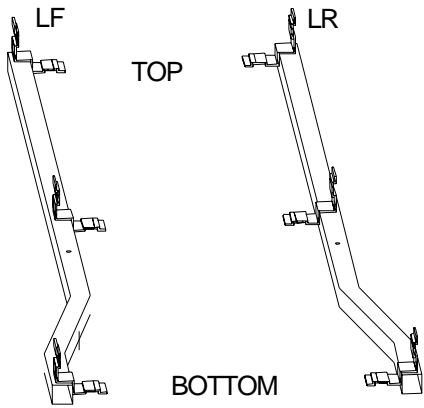
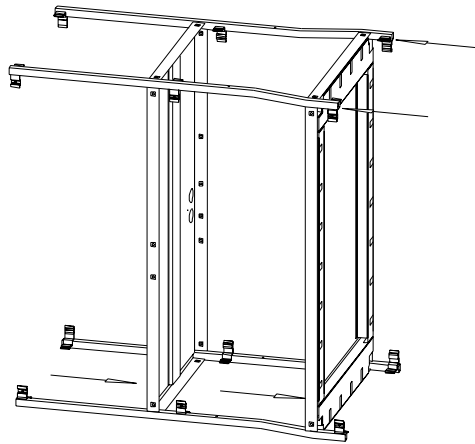
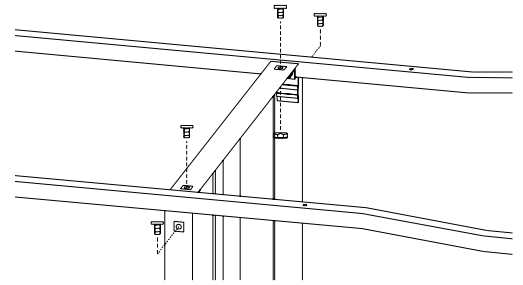

FIGURE 1
FIGURE 2
FIGURE 3
Lay the left legs side by side on a carpeted surface as shown in **Figure 1**. Slide the bottom and middle shelves onto the legs so the leg brackets are inside the shelves. (The 6 square embossed holes on the middle shelf face the back). Then slide the right legs on to the shelves. **Figure 2**. In each corner, **LOOSELY** attach shelves with bolts (AA) and nuts (BB) as shown in **Figure 3**.